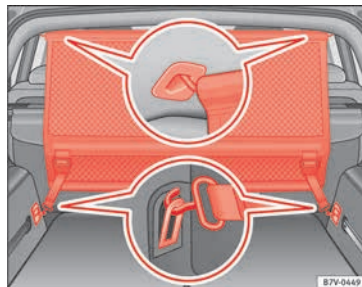

Fig. 168 In the luggage compartment: install the net partition behind the second row of seats.
- Hook in the net partition on the left-hand side roof support »» Fig. 168. To do this, guide the rod from up to down.
- Secure the net partition hooks into the straps in the front of the boot »» Fig. 168 then tighten the belts.
- Hook in the net partition on the front left-hand side roof support »» Fig. 168. To do this, guide the rod from up to down.
- Release the net partition hooks from the rings »» Fig. 168.
- Unhook the net partition on the right-hand side roof support »» Fig. 168 by pressing on the rod.